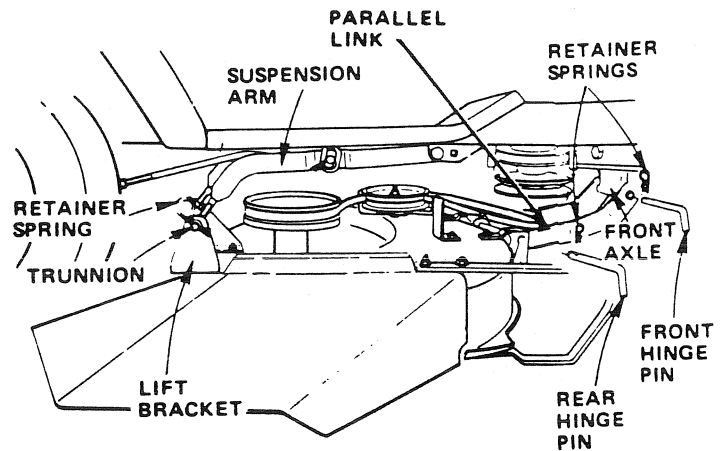

FIGURE 31
- Install front hinge pin through axle and parallel link (Fig. 31). Secure with retainer spring.
- Install rear hinge pin through mower lift brackets and parallel link (Fig. 31). Secure with retainer spring.